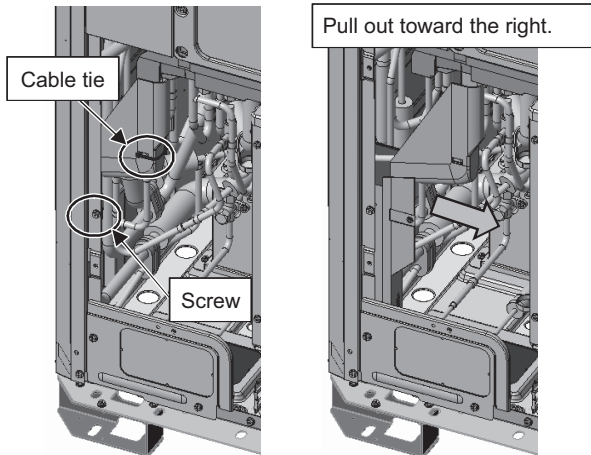

Figure 3
Unscrew the four screws indicated with arrows (A) in Figure 3. The arrow indicated with dotted lines is located where indicated in Figure 3-a. Pull the unscrewed part forward, and unhook the part indicated with Arrow (B) to remove the part from the base of the unit.
- (2) Cut the cable tie, unscrew the screw, and pull out the drain pan cover toward the right. (See Figure 3.)